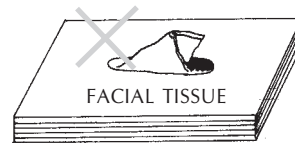

Fig. 10.2
- Do not use bad quality facial tissue or coarse cloth to clean the lens as the coarse fibres can scratch the surface of the lens (Fig. 10.2).